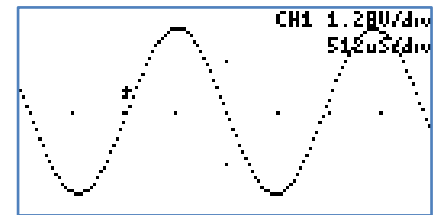

Figure 35: Pixel Display
- **Pixel:** A single pixel represents a sample. The pixel display is useful at slow sampling rates or when used in combination with the persistent mode. Figure 35 shows the pixel display.